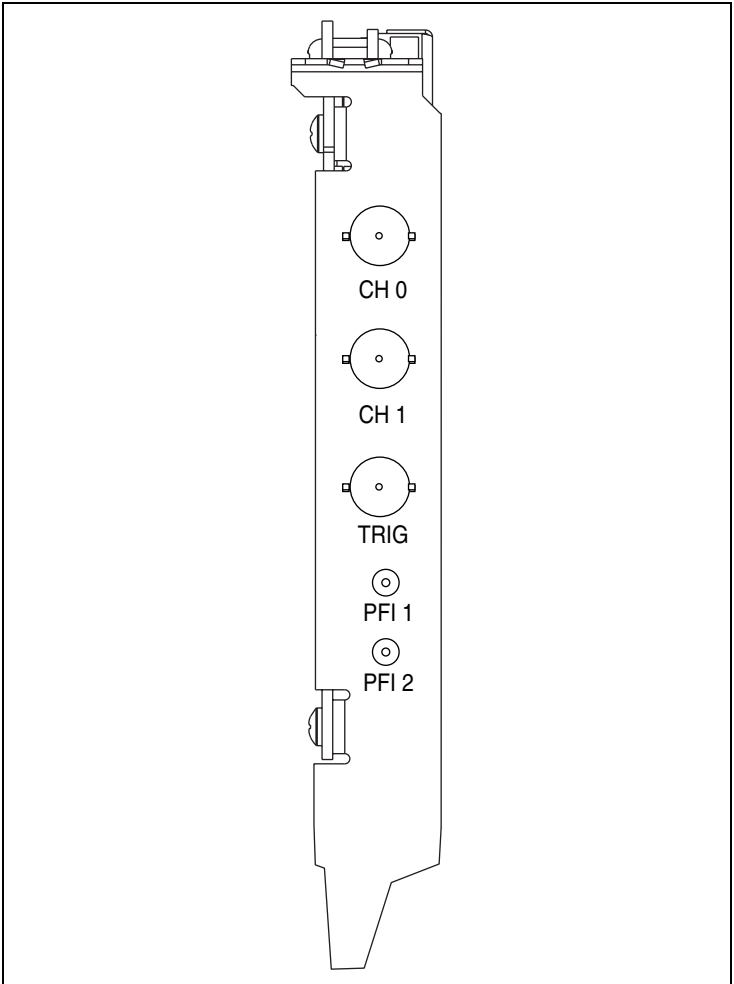

Figure 10. NI PCI/AT-5102 Front Panel
- ◆ **NI PCI/AT-5102 Front Panel**—Figure 10 shows the front panel of the NI PCI/AT-5102.